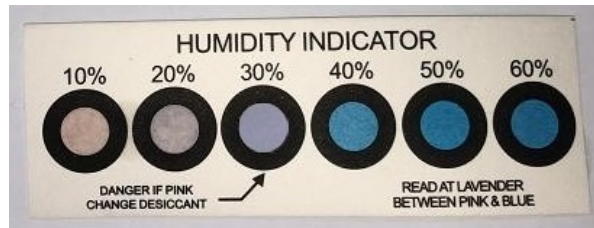

Figure 5-5 Abnormal Humidity Indication
- When the 30% circle is lavender and the 20% circle is pink, the humidity condition is abnormal. See Figure 5-5. Bake the module before surface mounting.